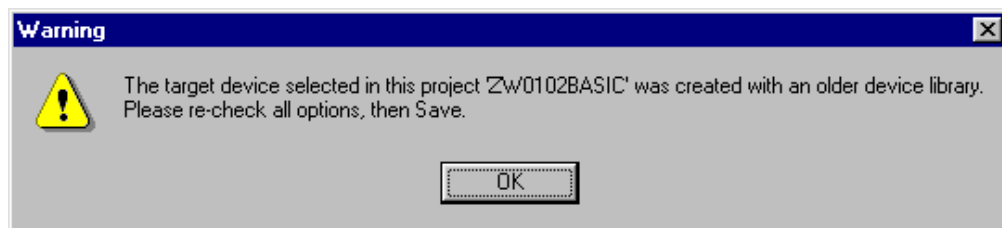

Figure 11 Warning message when loading a project generated with a previous revision of the library
3. You might get the warning message depicted in Figure 11, if the device library revision has been updated since the project file was generated. A new file can be obtained from Zensys¹.